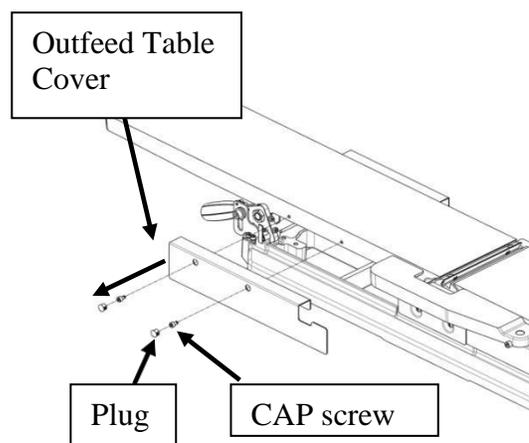

Fig. 37: Cover
STEP 2: Remove the plugs and loosen CAP screws to release and remove outfeed table cover as in **FIG. 37**.